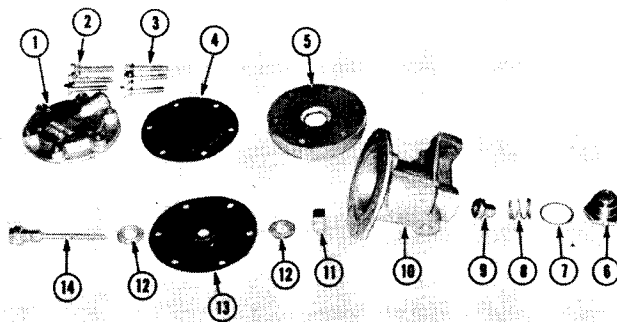

Figure 13-53
Install a washer (12, Fig. 13-53), diaphragm (13), washer (12) and nut (11) on the push rod (14). Place the diaphragm (13), body (5), diaphragm (4) and body (1) on the main body (10). Secure in place with the cap screws (3) and lock washers (2). Install the valve (9), spring (8), gasket (7) and cap (6) in the top of the body (10).